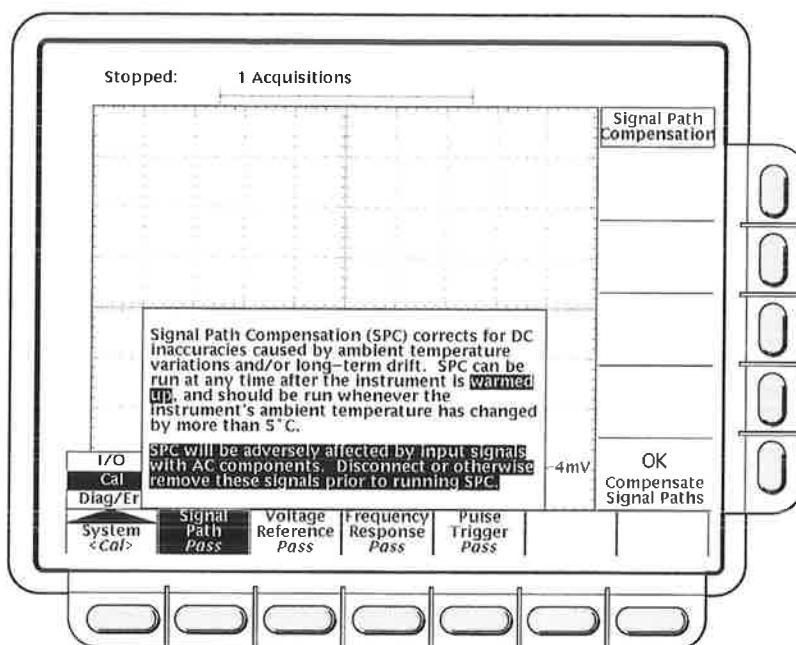

Figure 3-57: Performing a Signal Path Compensation
5. Verify the word **Pass** appears under **Signal Path** in the main menu. (See Figure 3-57.)